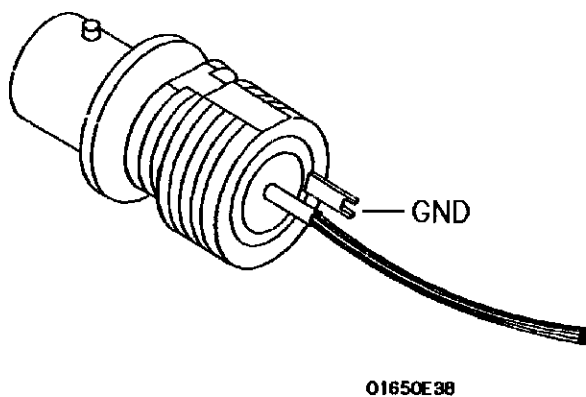

Figure 3-1. Test Connector
The performance tests and adjustments require connecting pulse generator outputs to probe pod inputs. Figure 3-1 is a test connector that may be built to allow testing of multiple channels (up to eight at one time). The test connector consists of a BNC connector and a length of wire. Connecting more than eight channels to the test connector at a time will induce loading of the circuit and true signal representation will degrade. Test results may not be accurate if more than eight channels are connected to the test connector.
Test Connector	see figure 3-1 (2)